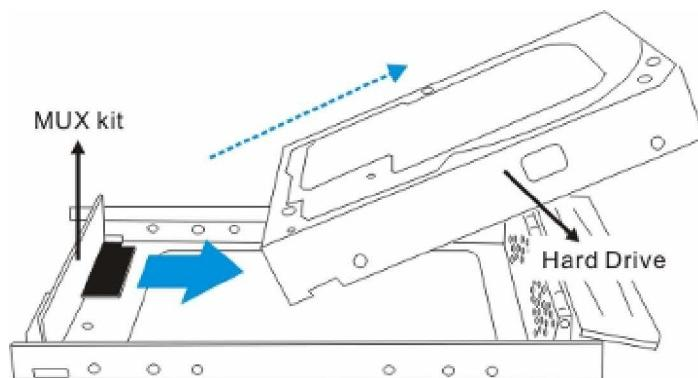

Figure 5-34: Removing the Hard Drive
Step 6. Remove the hard drive from the drive tray. Disconnect the drive from the MUX kit, and then remove the hard drive. (See *Figure 5-34*)